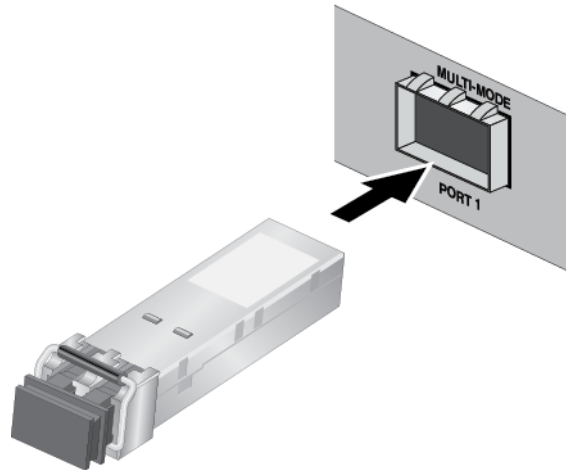

Figure 21. Inserting the SFP
- Slide the transceiver into the SFP slot until it clicks into place. See Figure 21.